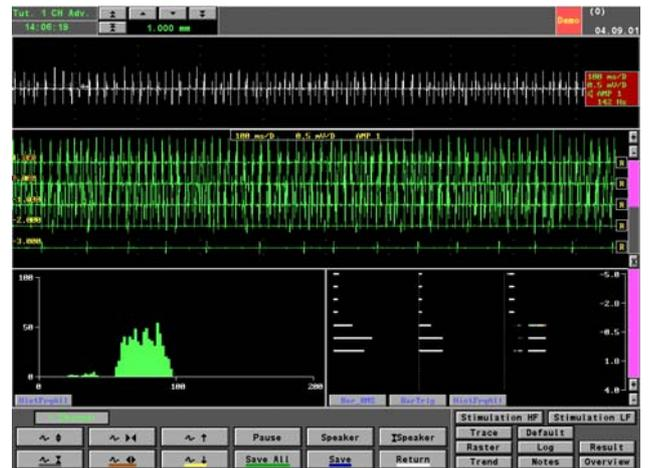

Figure 84 The Electrode Has Passed the Target by 1.000mm
- Alter the distance to the target from 0.000 to 1.000mm, see Figure 84 below.